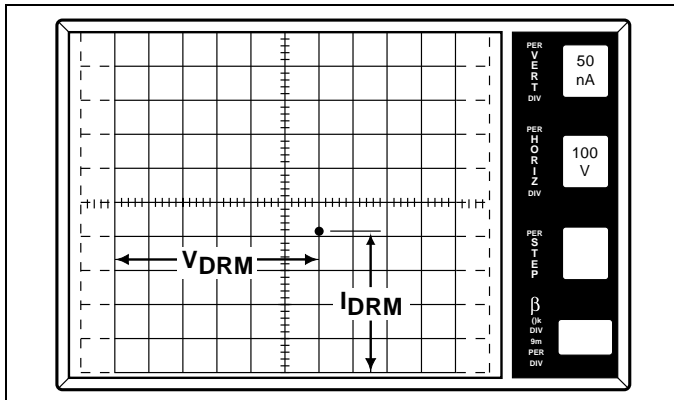

Figure 19.9 (+)IDRM is equal to 205nA at (+)VDRM equal to 600 volts
- Increase *Variable Collector Supply Voltage* to the rated  $V_{DRM}$  of the device and observe the dot on the CRT. Read across horizontally from the dot to the vertical current scale. This measured value will be the leakage current. (See Figure 19.9.)